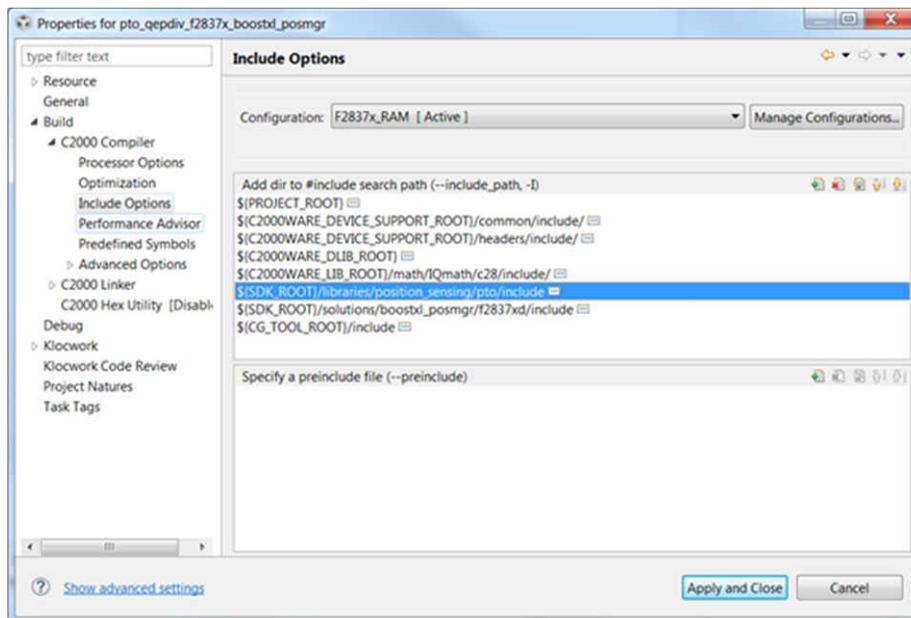

Figure 8-1. Compiler Include Options for Projects Using PTO Reference APIs
- a. Add the header file directory to the '#include search path' (see Figure 8-1)